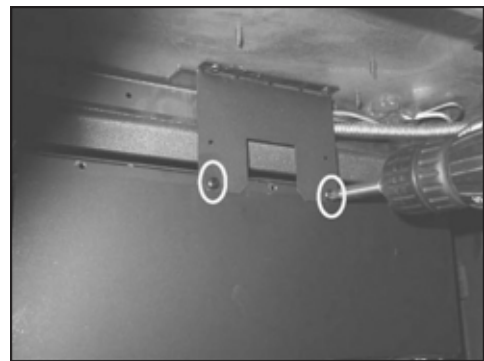

Figure 4
4. Attached to the underside of the appliance is a bracket which supports the front of the blower. Bend this bracket down and secure with two screws. **Figure 4.**